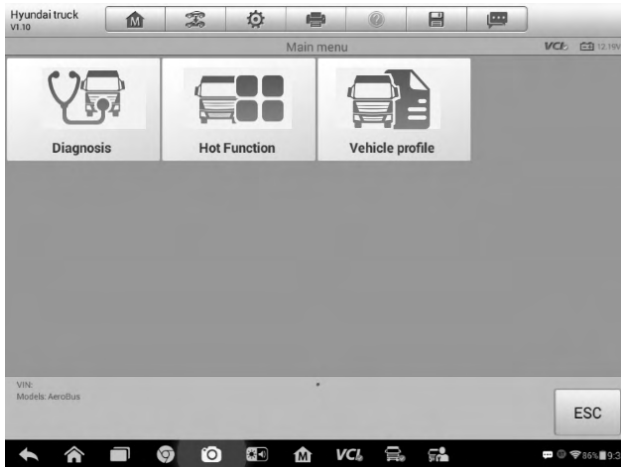

Figure 4-3 Sample CV Diagnostics Screen
5. Tap **Done**. The vehicle will be identified in a few seconds, and once the matching is successful, the system will guide you to the CV Diagnostics screen directly. (Figure 4-3)
The **CV Diagnostics** screen (*Figure 4-3*) has two main options: